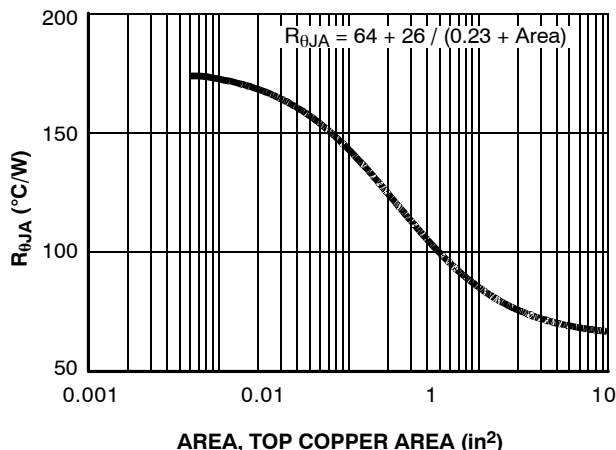

Figure 20. Thermal Resistance vs. Mounting Pad Area
**onsemi** provides thermal information to assist the designer's preliminary application evaluation. Figure 20 defines the  $R_{\theta JA}$  for the device as a function of the top copper (component side) area. This is for a horizontally positioned FR-4 board with 1 oz copper after 1000 seconds of steady state power with no air flow. This graph provides the necessary information for calculation of the steady state junction temperature or power dissipation. Pulse applications can be evaluated using the **onsemi** device Spice thermal model or manually utilizing the normalized maximum transient thermal impedance curve.
Thermal resistances corresponding to other copper areas can be obtained from Figure 20 or by calculation using Equation 3. The area, in square inches or square centimeters is the top copper area including the gate and source pads.